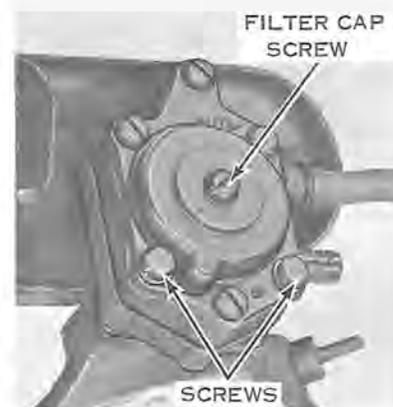

Figure 5-9
- a. Disconnect two hoses from fuel pump and filter assembly (see Figure 5-9).
- b. Remove two screws attaching pump and filter assembly to intake manifold (see Figure 5-9), and remove pump and filter assembly. NOTE: Filter assembly may be removed for cleaning and inspection without removing pump assembly by removing filter cap screw.